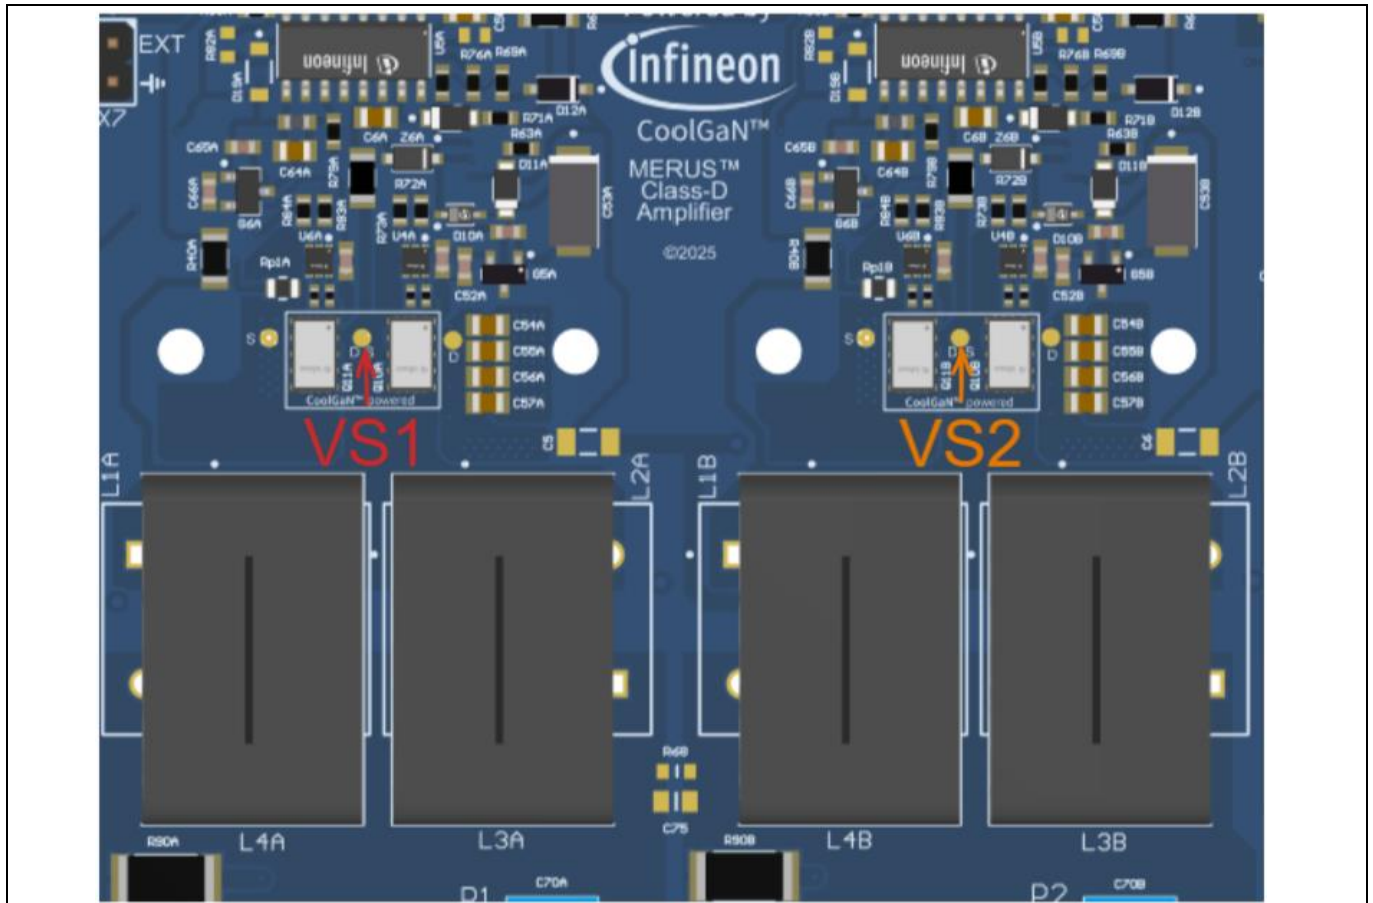

Figure 9 VS1 and VS2 test points
7. Monitor switching waveform for CH1 at VS1 and VS2 for CH2 using an oscilloscope (Figure 9)